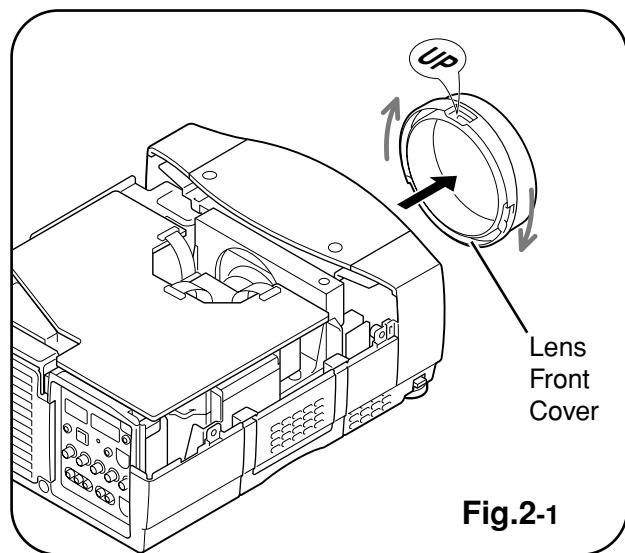

Fig.2-1
- 1 Turn the Lens Front Cover counter-clockwise and to take it off by pulling forward as shown in **Fig.2-1**.